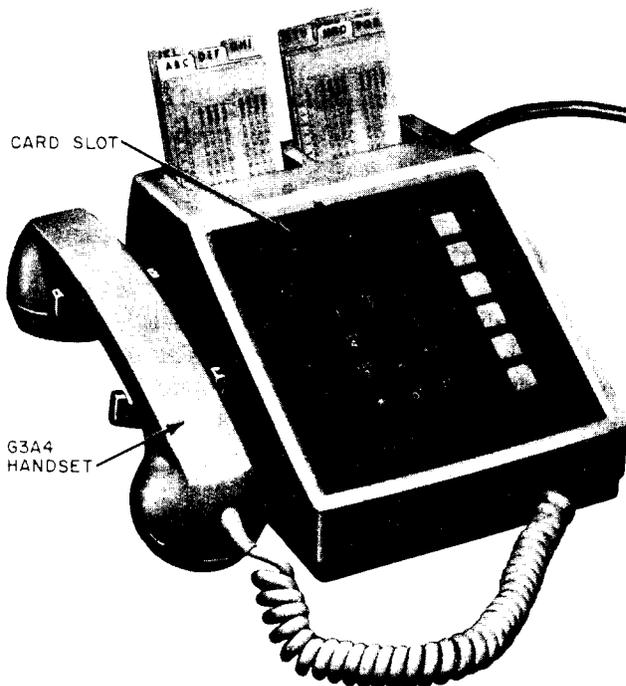

Fig. 1—F-58555 Telephone Set
1.01 The F-58555 telephone set (Fig. 1 and 2) is a desk-type, 6-button key card dialer, providing for automatic and manual calling.